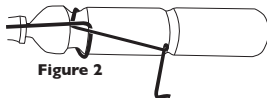

Figure 2
- After insertion, ensure the wire of the front loop fits well inside the neck of the battery. (Figure 2)